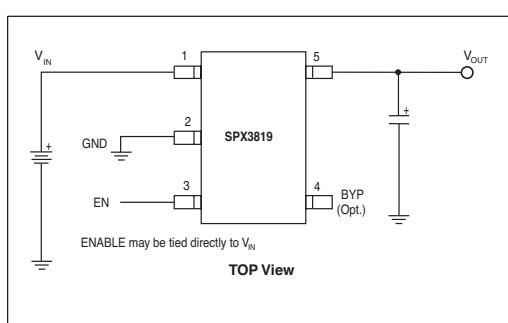

Figure 1. Standard Application Circuit
*Figure 1* represents a SPX3819 standard application circuit. The EN (enable) pin is pulled high (>2.0V) to enable the regulator.